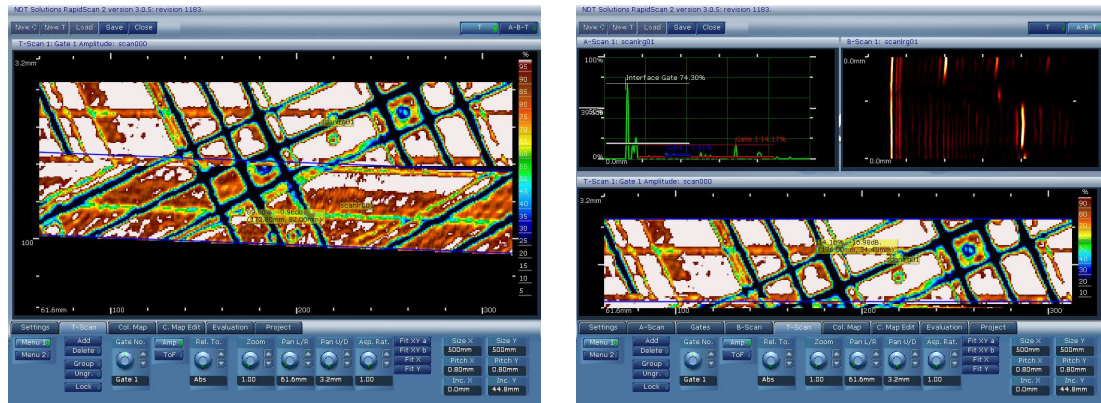

Figure 28: T View (left) and A-B-T View (right)
- **T** A large T-scan view (Figure 28)
- **A-B-T** A medium-sized A, B and T-scan view (Figure 28)